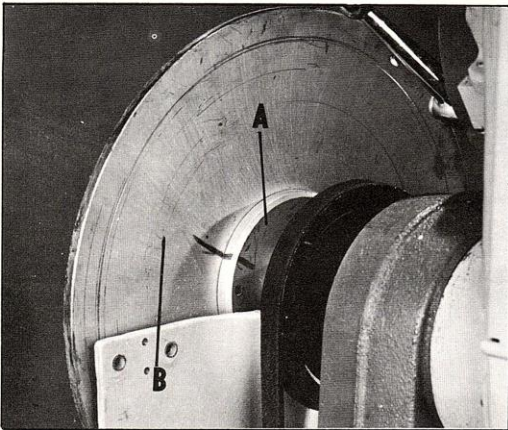

Fig. 20.
3. Make a scribe line on the flange (A) Fig. 20, extending it onto the back of disc wheel (B). When reassembling the flange and disc wheel, make sure the scribe lines coincide with each other.